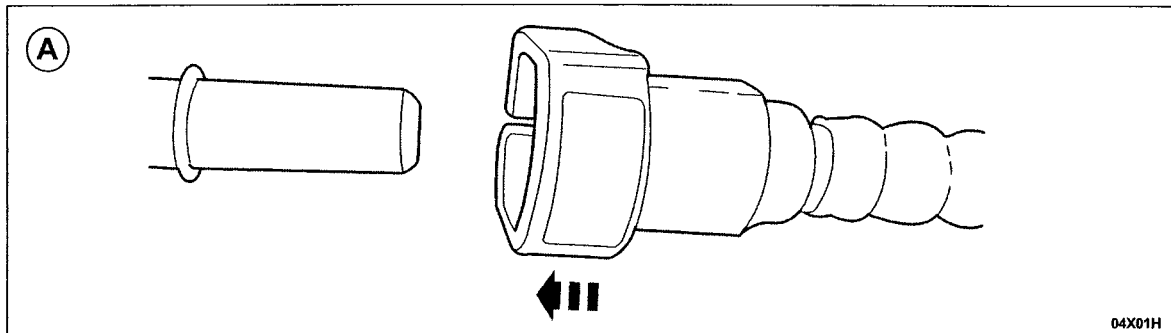

FIGURE 8
2. To reconnect: See Figure 8.